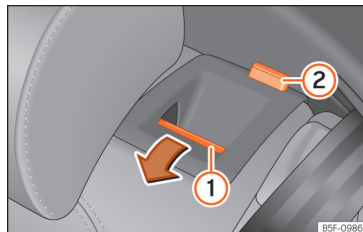

Fig. 65 Rear seat: folding down the backrest.
- Press the unlock button >>> Fig. 65 ① forwards and at the same time fold the backrest down. The rear seat backrest is not engaged when the red marking of the button ② is visible.